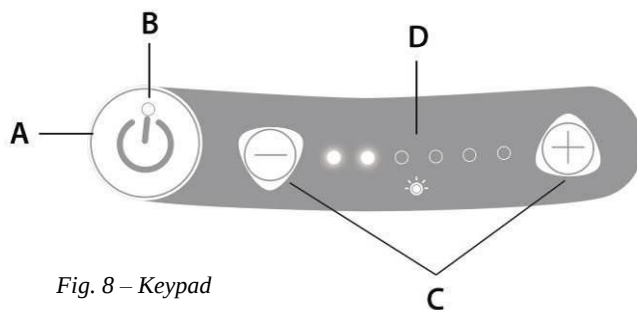

Fig. 8 – Keypad
2. Turn on the lamp, using the keypad No.5, and adjust the light intensity with the + and – buttons. (See Fig. 8).